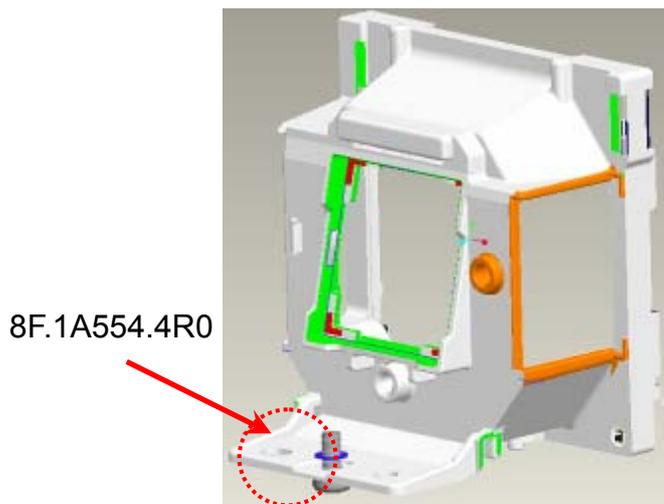

Fig. 1-1
- I. Assemble Washer and Screw to the HLD Lamp (Figure1-1).